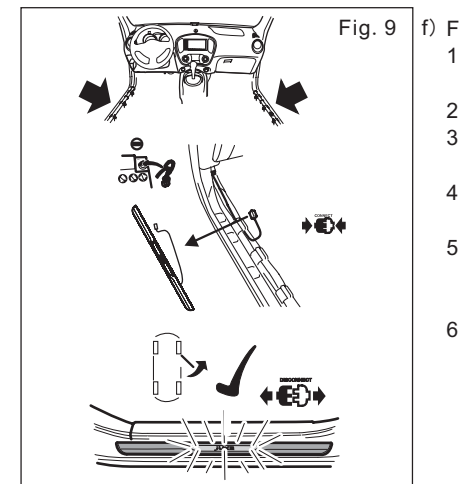

Fig. 9
- f) Function check. See in Fig.9.